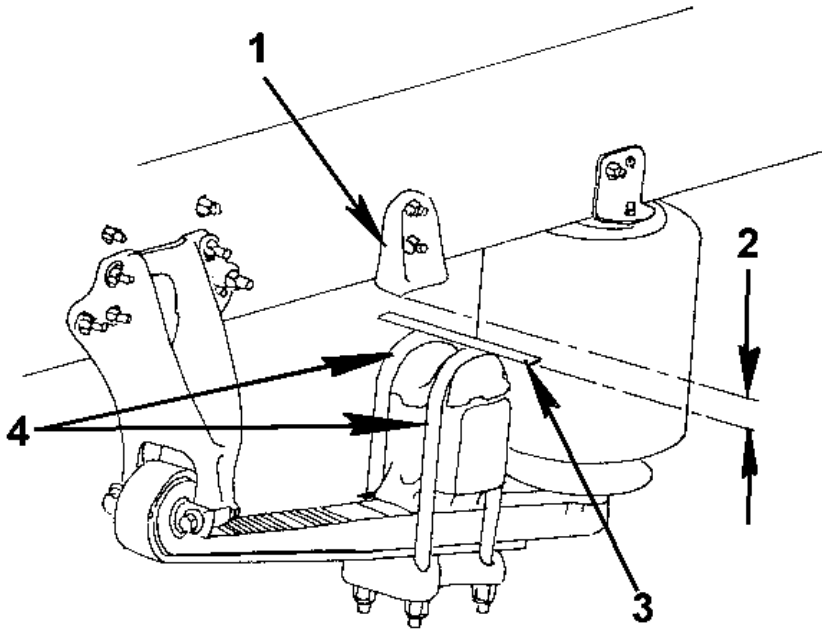

Figure 6 Axle Travel Measurement
5. Raise valve lever to 45 degrees above horizontal again, until air spring height is to dimension shown in RIDE HEIGHT DIMENSIONS. Refer to Figure 6, Item 2. Release the valve lever.